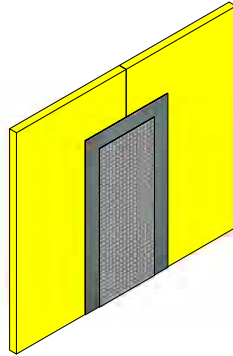

Figure 5
4. Place one ply of MasterSeal AWB 971 FIB into the wet MasterSeal AWB 660 or MasterSeal AWB 665 or MasterSeal AWB 660 I. (See Figure 5).